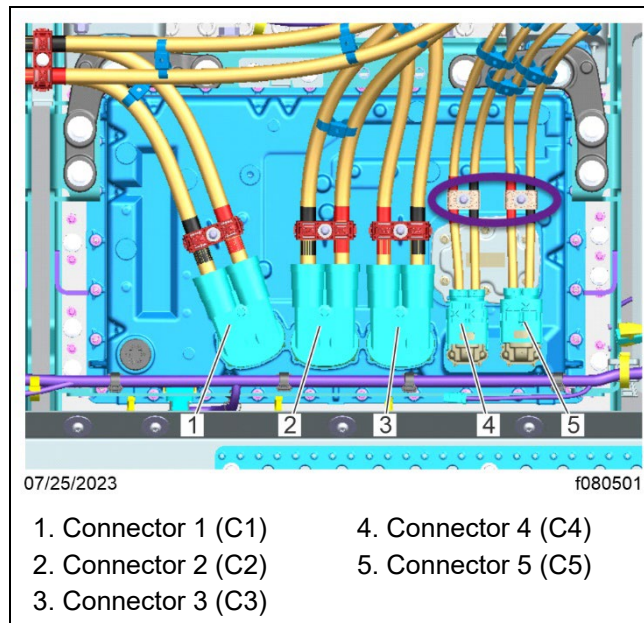
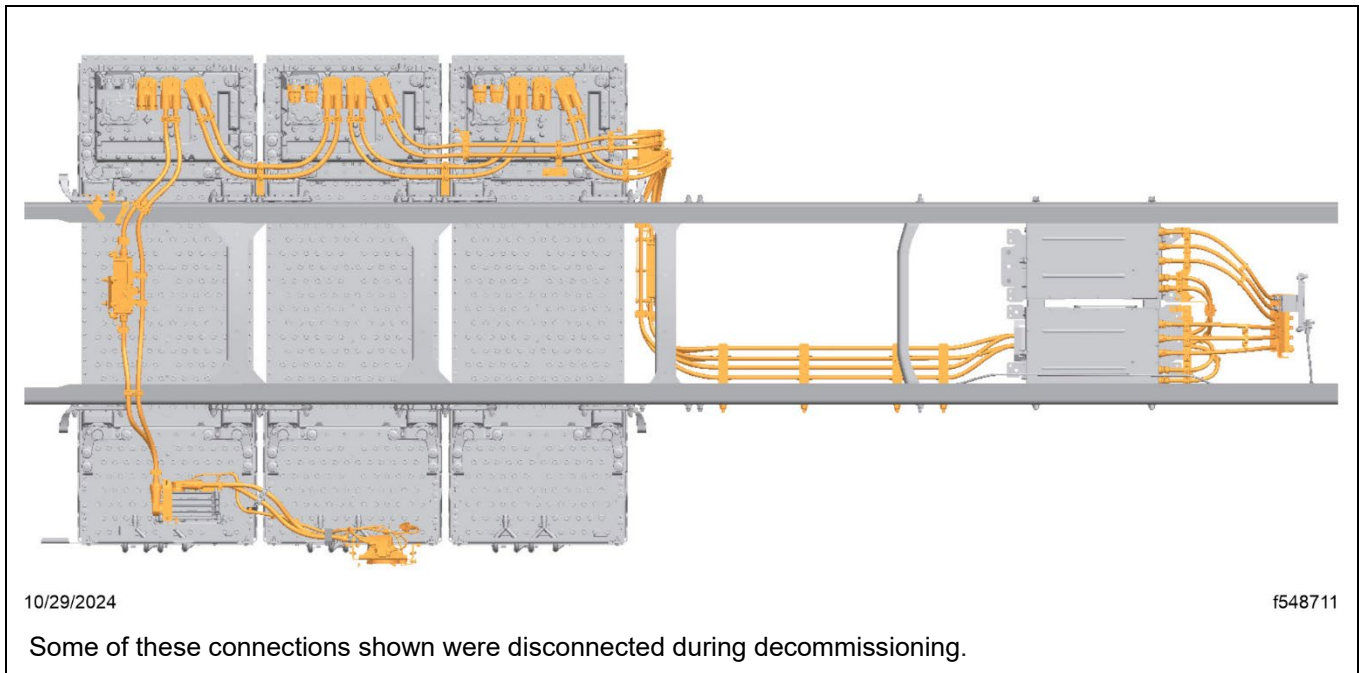

Fig. 4, HV Battery Connectors
Fig. 5, CL7 Cable Layout
5. Inspect all the HVS420 connector fasteners, located on the HV battery EE boxes and DC boxes, for the correct torque of 17 lbf·ft (23 N·m) by tightening the fasteners. Fill out the torque values in Table 3 and Table 4. See Fig. 4, Fig. 5, and Fig. 6.